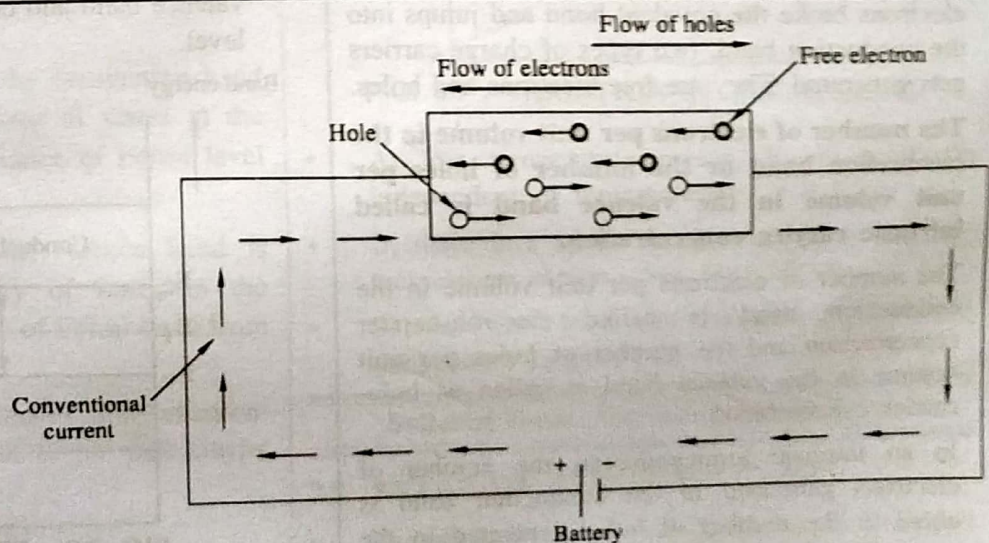

FIG. 2.7 : CONDUCTION IN INTRINSIC SEMICONDUCTOR
- The process of conduction in intrinsic semiconductor is shown in Fig. 2.7.
- In the Fig 2.7, an intrinsic semiconductor is connected to a battery.